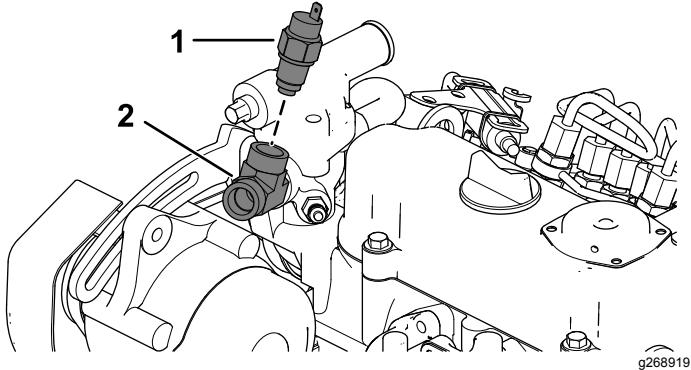

Figure 15
B. Install a tee fitting (Figure 15).
C. Install the temperature switch (Figure 15).